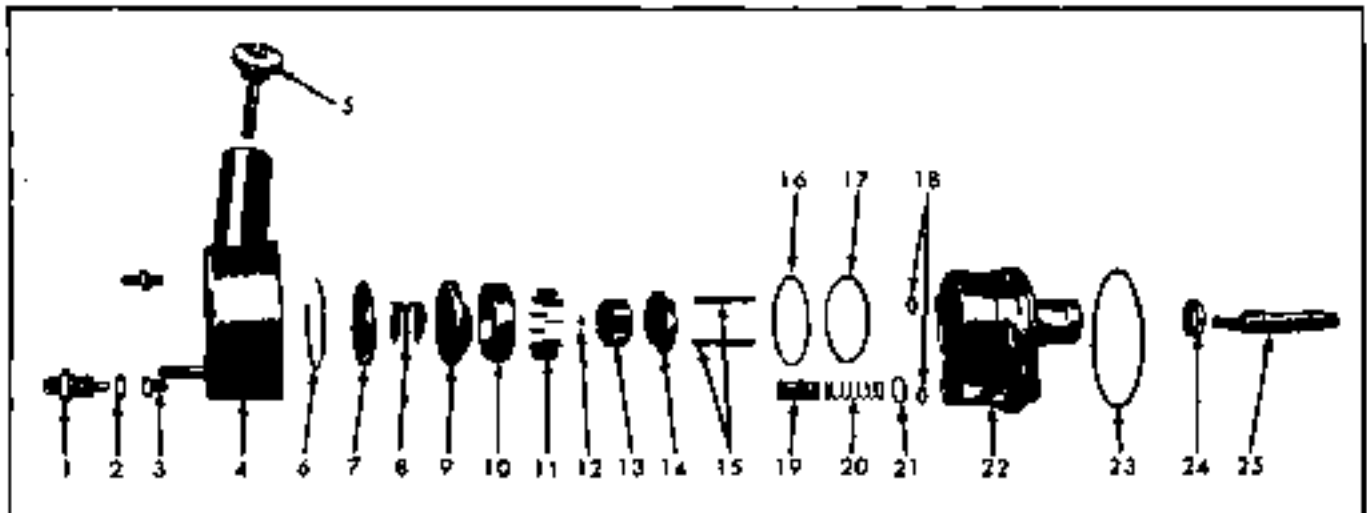

Fig. 9-89 Removing Pump Shaft
12. Remove shaft through front of housing (Fig. 9-89).